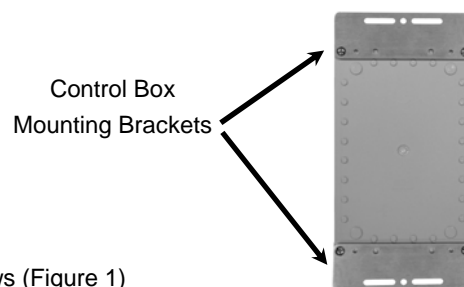

Figure 1
2. Attach the two Control Box Mounting Brackets to the back with the included screws (Figure 1)